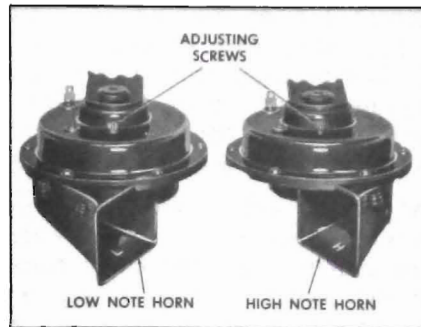

Figure 10-63—Matched Horn Set
3. Adjust to specified current draw if necessary, by turning adjusting screw clockwise to decrease or counterclockwise to increase current draw. See Figure 10-63.